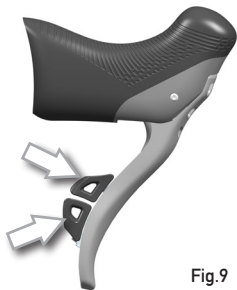

Fig.9
- repeatedly move the lower lever, as if you want to move up to the larger sprockets (Fig.9).
- repeatedly move the upper lever, as if you want to move down onto the smaller sprockets (Fig.9)..